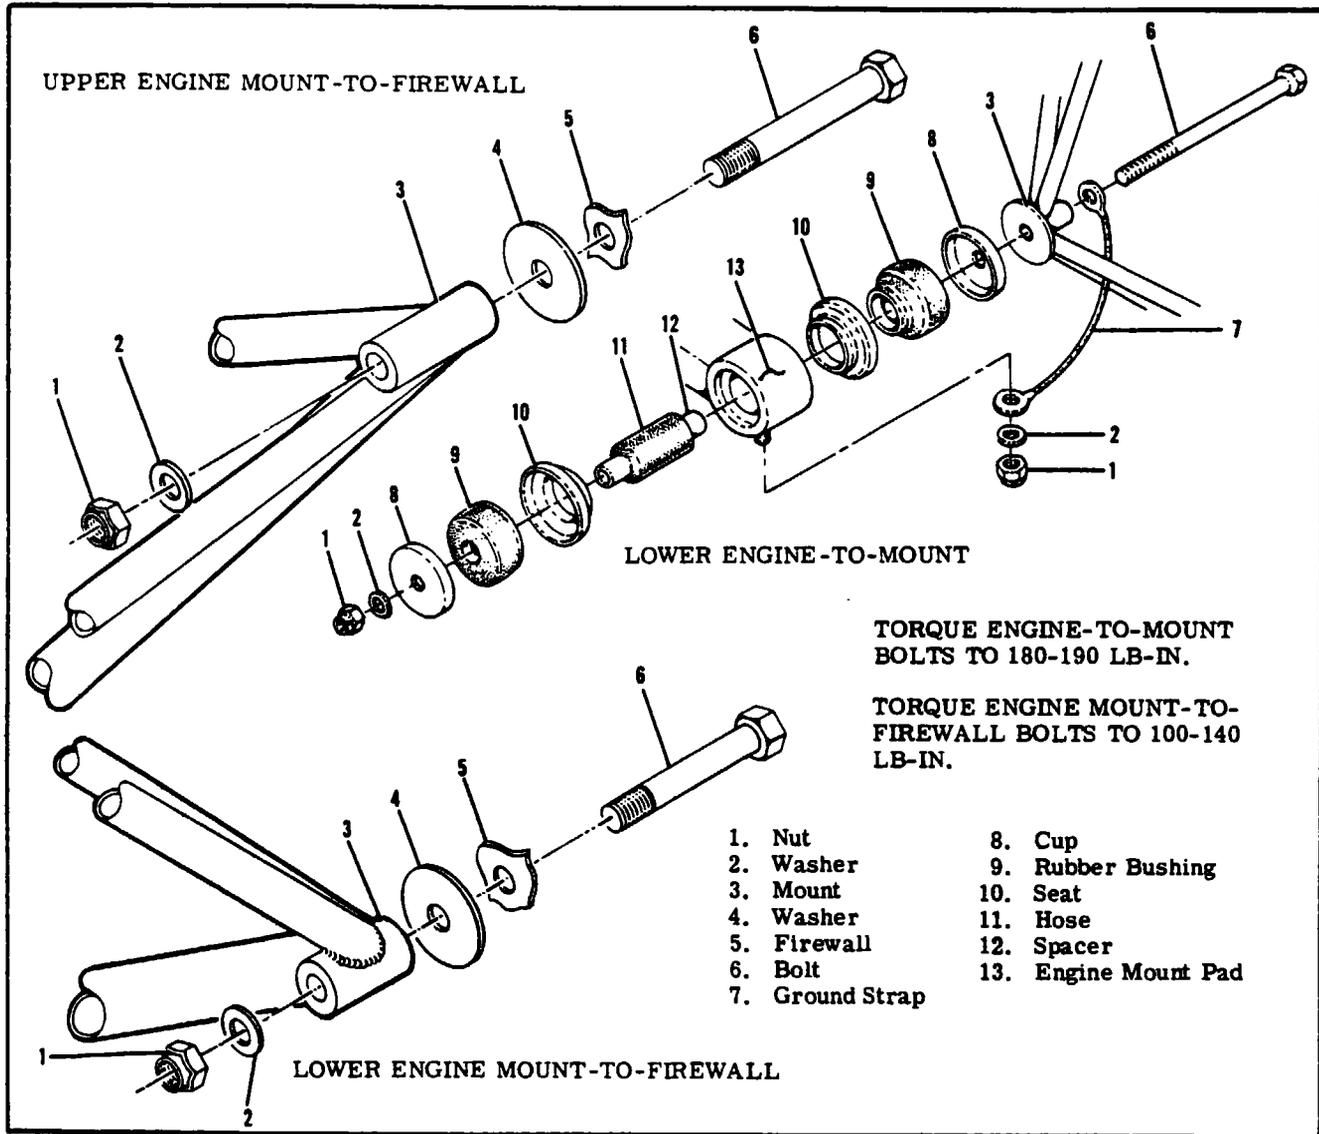

Figure 11-2. Engine Mount Details
- c. Install shock-mounts as shown in figure 11-2 and install engine-to-mount bolts. Be sure ground straps are in place at lower engine mount. Tighten engine-to-mount bolts to torque value shown in figure 11-2.
11-23. **REMOVAL AND INSTALLATION.** Removal of the engine mount necessitates removal of the engine and nose landing gear, followed by removal of the bolts attaching the engine mount to the fuselage structure. When installing an engine mount, tighten mount-to-fuselage bolts to the torque value listed in figure 11-2. Install landing gear as outlined in paragraph 5-23. The engine, engine mount and nose gear may be removed from the aircraft and then engine and nose gear removed from the mount.